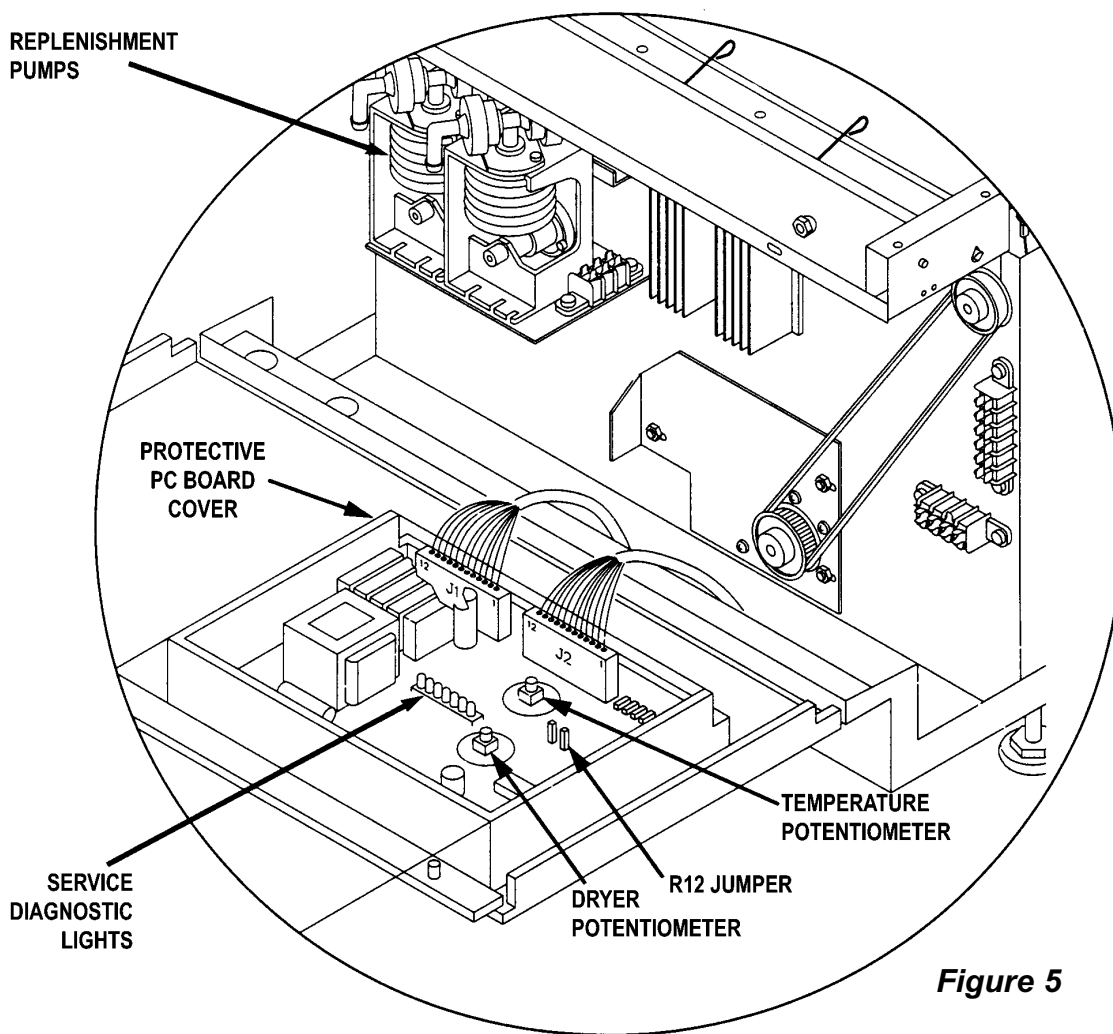

Figure 5
The dryer potentiometer is factory set at position 3. (See Figure 5, p. 15) If it is necessary to change the setting, do the following:
2. Open the protective cover and insert the jumper plug into the R12 position on the control board. (See Figure 5)